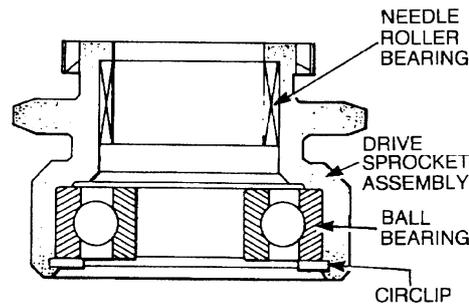

Figure 223 Installing Drive Sprocket Bearings
- d. Press the needle roller and the ball bearing in the drive sprocket assembly and secure the bearing with the internal circlip (Figure 223).